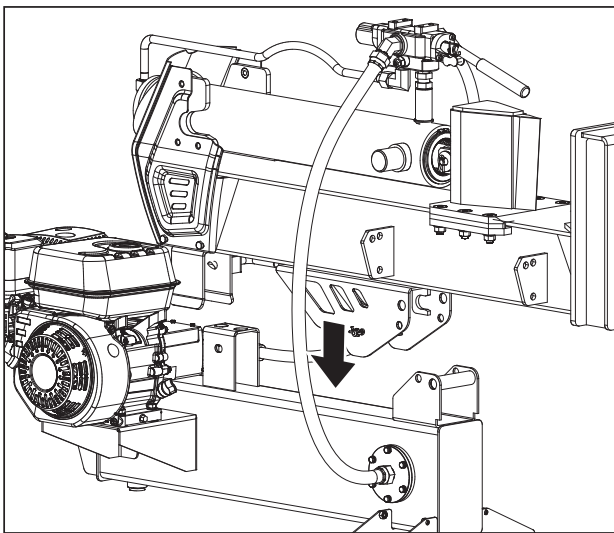

Figure 2a
1. Slowly sit the beam assembly with cylinder on the reservoir with engine assembly. (See Figure 2a.)